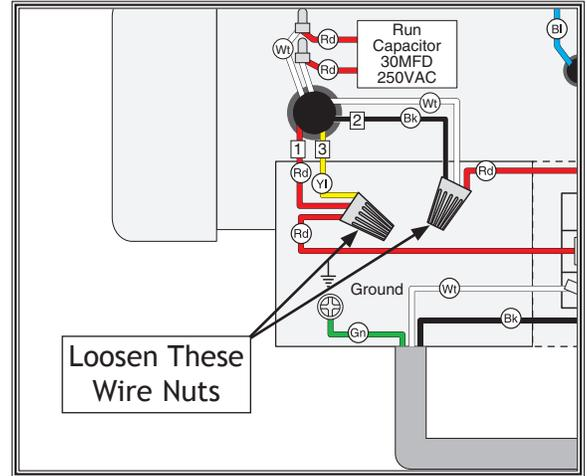

Figure 3. Location of wire nuts to be loosened on Model W1844 when converting to 240V.
3. Open motor junction box, then loosen wire nuts indicated in **Figure 3**.